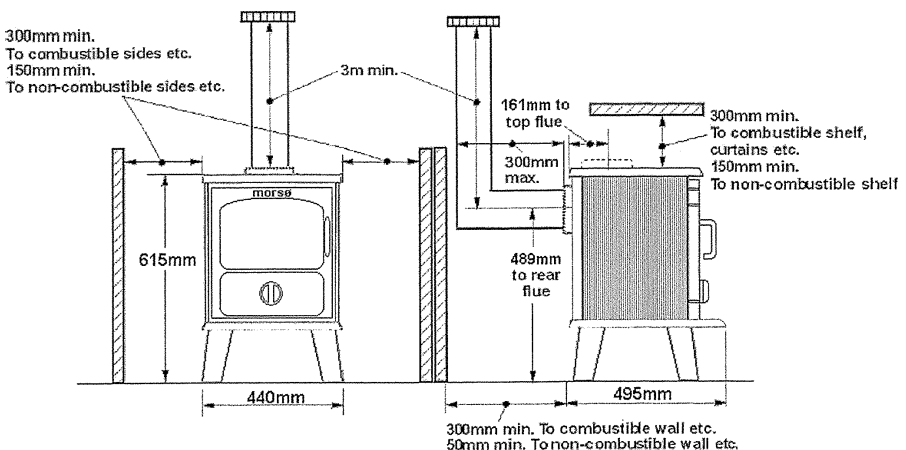

Figure 1
**Do** provide the minimum clearances shown in figure 1.